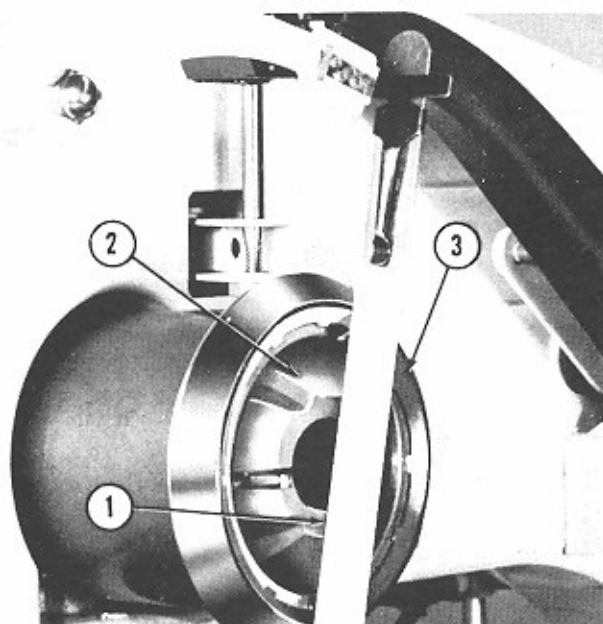

Fig. 78. RECORD CLAMP SETTING
(3) Advance the cycle of the record changer or manually operate the record clamp cam about 90° to the position which completely retracts the turntable pilot (See Item 2, Fig. 78). In this position, the turntable pilot should be retracted beyond the forward surface of the turntable (Item 3) 1/32" to 1/16".
(4) The record clamp setting, described in step (2) may be varied to minimum, if necessary, to accomplish the requirements of step (3).